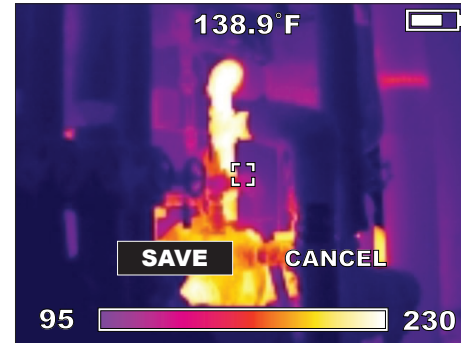

Figure 9. SAVE or CANCEL a New Image
6. When the display shows the object or scene framed the way you want it, pull the trigger to take a thermal picture. The display then presents you with choices to SAVE or CANCEL the new image. See Figure 9.